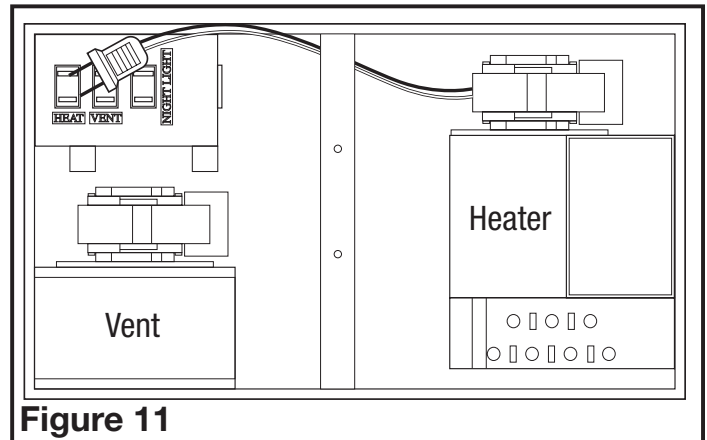

Figure 11
1. Insert the plug from the heating unit into the receptacle marked "HEAT", and the plug from the fan into the receptacle marked "VENT" (**Figure 11**).
3. Install light reflector into grill by lining up the posts on grill with the holes in light reflector (**Figure 13**). Raise light reflector and grill up to housing and insert plug from light into receptacle marked "LIGHT" (located on the side of the wire compartment) and insert plug from night light into receptacle marked "NIGHT LIGHT" (**Figure 11**).